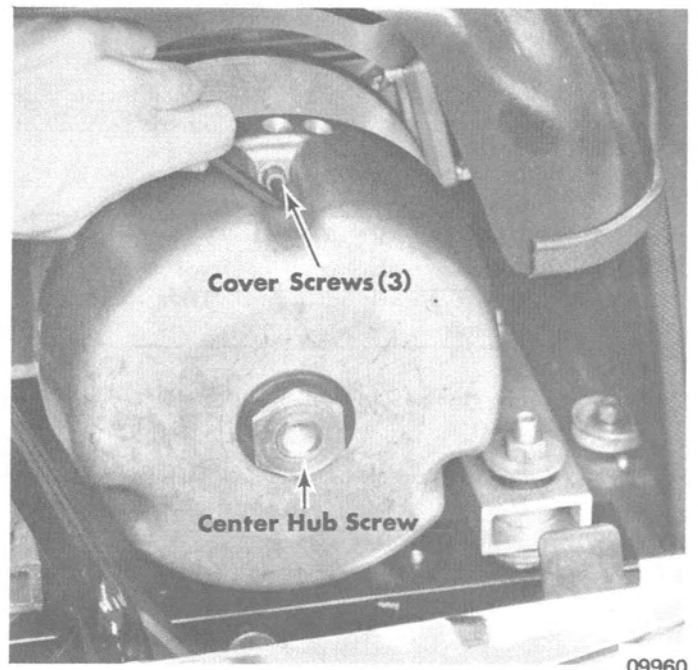

Figure 3. Removing Cover Screws
3. Remove 3 cover retaining screws and lockwashers. (Figure 3)